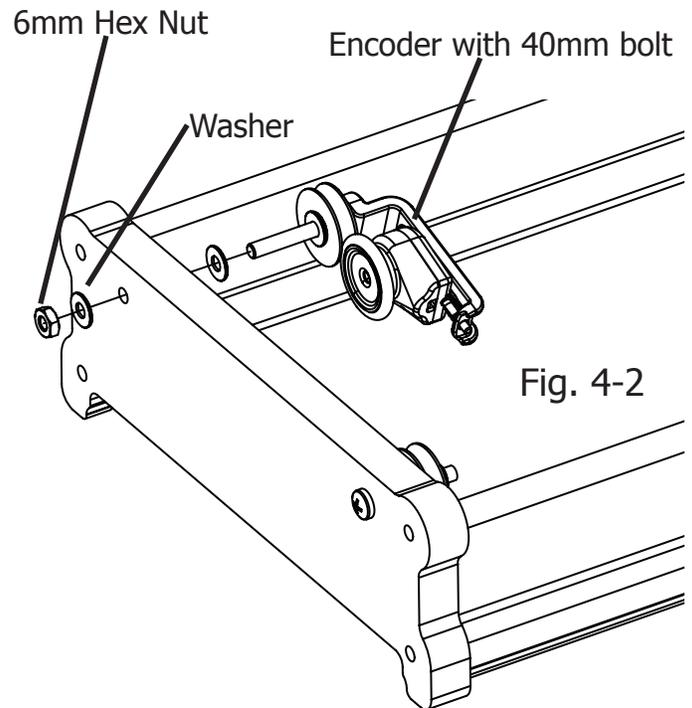

Fig. 4-2
**4-3:** Insert the exposed end of the bolt on the Encoder through the hole that the wheel was removed from, as shown in Fig. 4-2